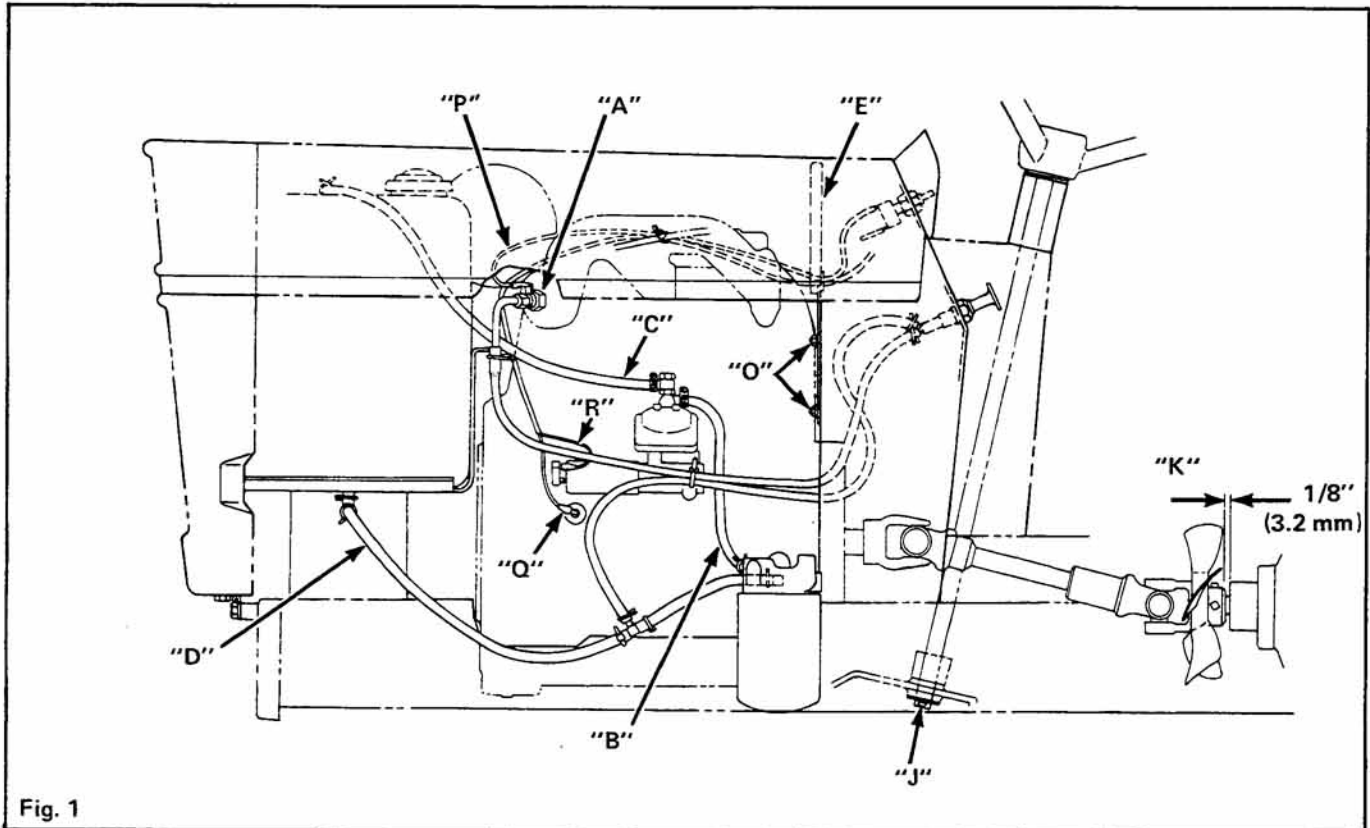
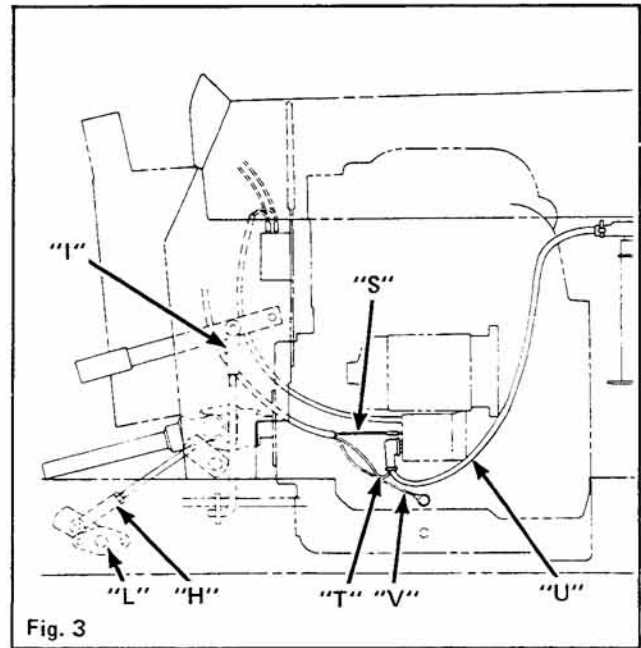
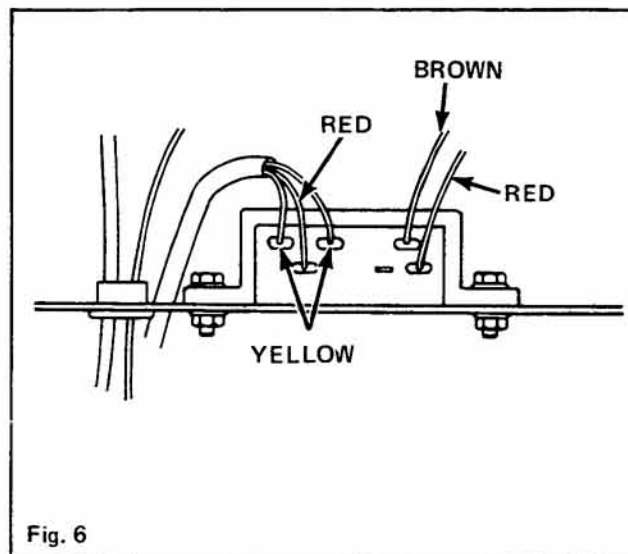

Fig. 1
Fig. 3
Fig. 6
9. Primer hose (A) Fig. 1 at engine.
10. Fuel line (B) from engine to filter.
12. Rear engine heat shield (E) Fig. 1 from instrument panel.
16. The (4) engine cradle mounting screws.
18. Brake rod (H) Fig. 3 from center shaft.
19. PTO rod (I) Fig. 3 inside instrument panel.
20. Pin (J) Fig. 1 on bottom of steering shaft.
22. Drive shaft (K) Fig. 1 at hydro end.
23. Disconnect control valve from instrument panel by removing the (2) mounting screws through panel.
1. Position engine with drive shaft into frame. Make sure drive shaft is over center cross shaft (L) Fig. 3 of frame.
4. Slide rear drive shaft (K) Fig. 1 over front drive shaft and secure to hydro input shaft. End of drive shaft must be approximately 1/8" (3.2 mm) from end of hydro.
6. Reinstall pin (J) Fig. 1 into steering shaft.
7. Reconnect hydro control rod to hydro arm, brake rod (H) Fig. 3 to center cross shaft and PTO rod (I) to PTO hand control.
12. Place star washers over studs (O) Fig. 1 on rear of instrument panel. Insert wiring harness and throttle control through rear engine heat shield. Secure shield on R.H. side using flange nuts. Secure muffler shield and engine shield on L.H. side using flange nuts.
14. Install short engine fuel line (B) Fig. 1 to filter manifold.
15. Connect primer hose at engine at point (A).
- A. Single black wire (P) Fig. 1 from engine temp. switch, if equipped, to engine at manifold.
- B. Gray wire from wiring harness to engine oil pressure switch (Q) L.H. side.
- C. Yellow with red stripe from harness to fuel solenoid (R) L.H. side.
- D. Red with yellow stripe to back of starter solenoid (S) Fig. 3 R.H. side.
- E. Red wire (T) of harness and positive red wire of battery (U) to screw terminal on starter.
- F. Secure black lead (V) of harness to R.H. engine cradle with (2) star washers and screw.
- G. Two yellow and one red lead of harness to regulator as shown in Fig. 6.
- H. Red and brown lead of harness to regulator as shown in Fig. 6.
- 18. Connect fuel tank to support. Connect fuel line (C) Fig. 1 from tank to L.H. side of engine. Route line under muffler support rod.
- 19. Route fuel line (D) Fig. 1 filter manifold over L.H. front engine mount and secure under fuel tank.
- 26. Connect RED lead (V) Fig. 3 from starter to POSITIVE post.